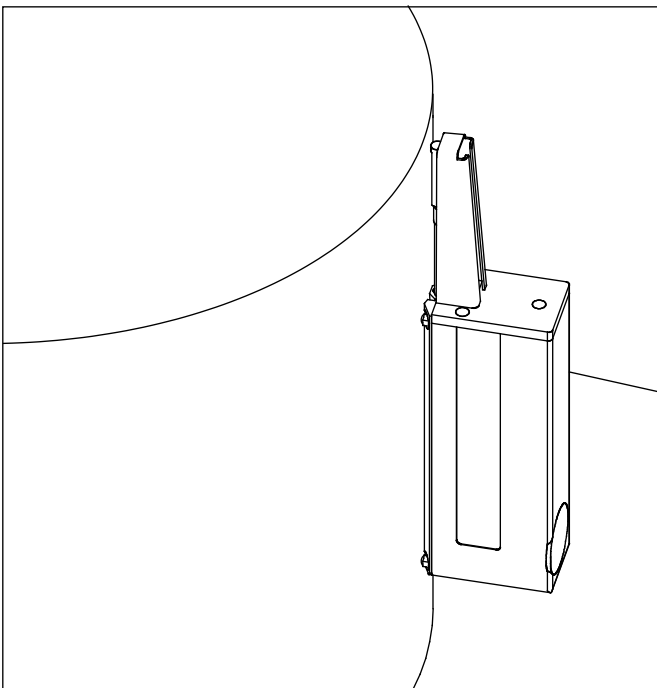

Fig. 10
- The drive unit's bottom is pressed manually against a vertical surface. According to the measurement task, the drive unit must be held either vertically (see Fig. 10) or horizontally.